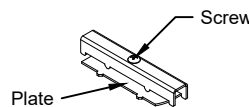

Fig. 4 Shipping brace.
6. Insert fixture into cutout. Fixture comes with shipping braces (Fig.4) installed. Do not remove braces till complete fixture installation. Secure fixture through perforated flanges to blocking behind gypsum board. Use flat head screws. Screw heads to seat even with perforated flange.